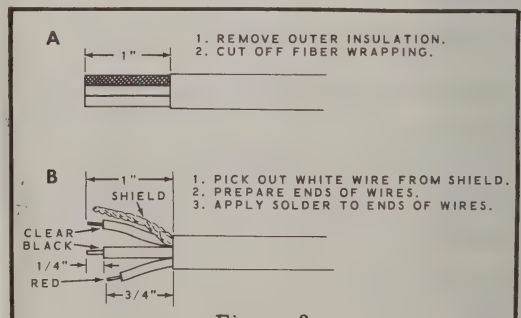

Figure 3
- () Locate the length of 3-wire cable and prepare one end as shown in Figure 3.